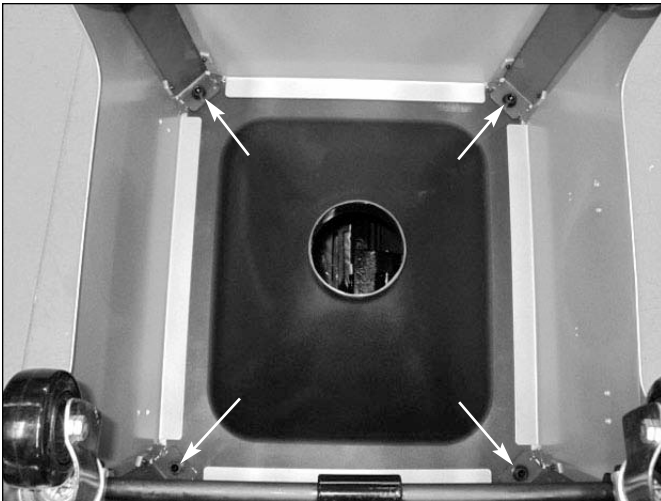

Figure 13
- If an adjustment is necessary, proceed as follows: (Refer to Figure 13 in operator's manual). Loosen the hex head bolts and lock washers (Nos. 36, 37 and 38) of the trunnion. Shift trunnion until a position is found where the saw blade is parallel to the miter gauge slots.